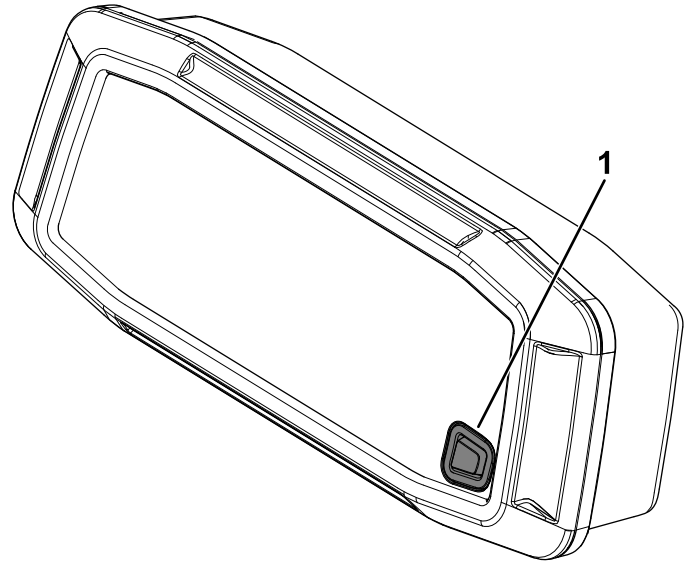

Figure 72
1. Press and hold the button (Figure 72) for at least 10 seconds.